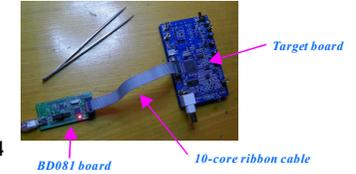

Fig.4
- 5) Connect to target board (see Fig. 4)..